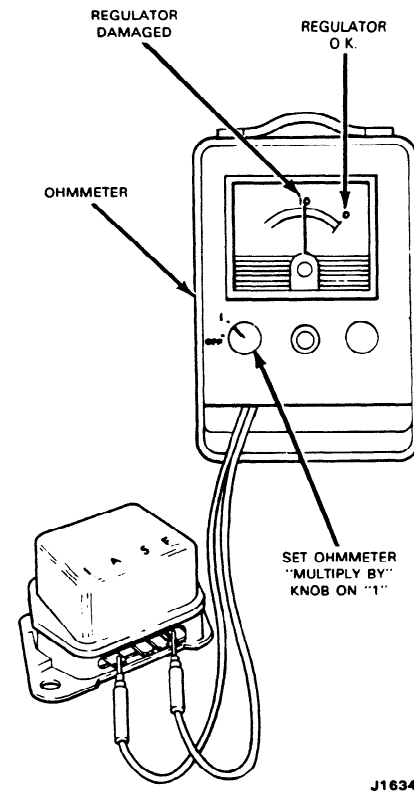

FIG. 12 Regulator Burned — Open Connector Wire Test
9. A check for the regulator burned-open wire is made by connecting an ohmmeter from the I to F terminals of the regulator (Figure 12). The reading should indicate 0 (no resistance). If the reading indicates approximately 10 ohms, the connector wire inside the regulator is open. **The field circuit grounded condition must be found and repaired before installing a new regulator.**